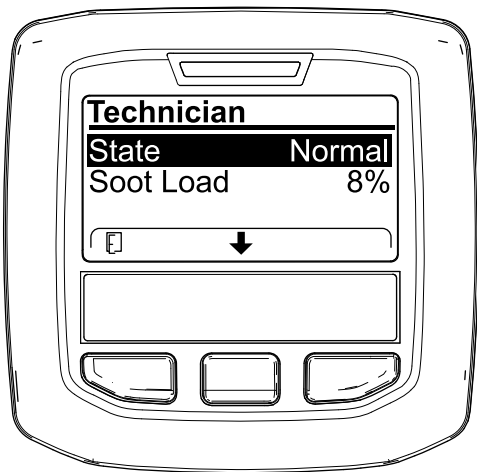

Figure 38
- Use the DPF operation table to understand the current state of DPF operation (Figure 38).